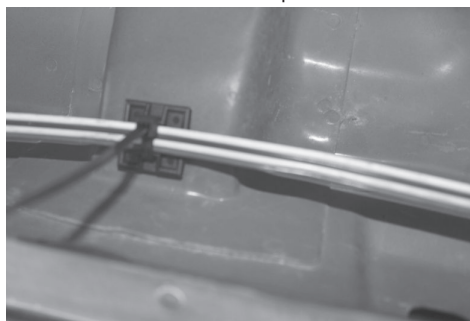

Figure 3
10. In between frame rail and driver's side wheel well attach the cable tie mounting pad as shown in **Figure 3**. Secure the 4-Flat with cable ties provided.